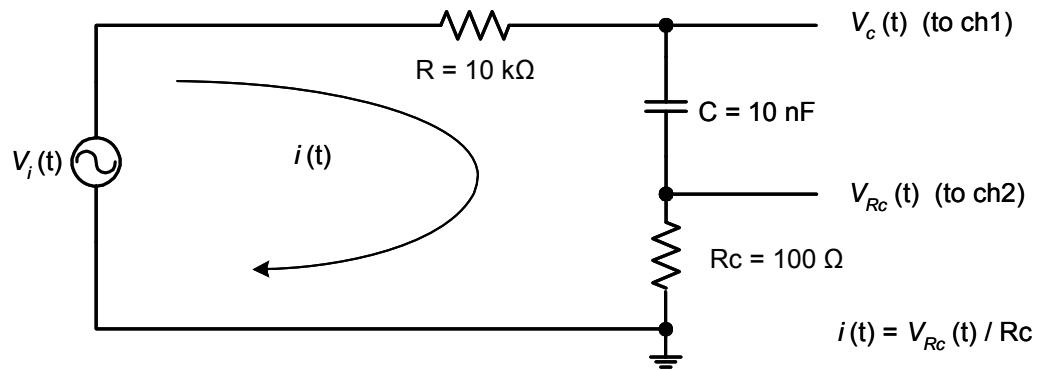

Figure 4.3
- iii) Draw a diagram of the actual physical layout of the circuit shown in Figure 4.3, including the protoboard, instruments and connecting wires.
- iv) Fill in the theoretically expected values missing in Table 4.1 (refer to Figure 4.3)
Because both vertical channels of the oscilloscope have one input terminal grounded, all measurements made by the oscilloscope use the ground as a reference (i.e. no “floating” measurements are possible). Currents cannot be measured directly with an oscilloscope. To allow monitoring of the current,  $i(t)$ , a small resistor,  $R_c$  is placed in series with the capacitor,  $C$ , as shown in Figure 4.3 and its voltage is monitored. As long as  $R_c \ll |X_c|$  and  $R_c \ll R$ , the voltage drop across  $R_c$  is small compared to the other voltages, and the effect of the resistor,  $R_c$  on the circuit can be ignored. The current,  $i(t)$  can be obtained by  $i(t) = \frac{1}{R_c} V_{Rc}(t)$ .
- Step 2:** Connect the circuit in Figure 4.3 as you have drawn it in part iv) of the preparation. Display simultaneously the capacitor voltage,  $v_c(t)$ , on CH1, and the voltage,  $v_{Rc}(t)$  across the resistor,  $R_c$  on CH2.